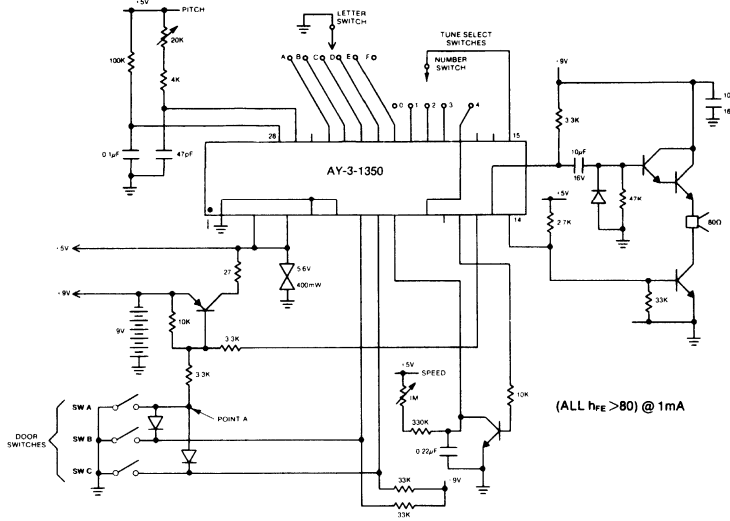
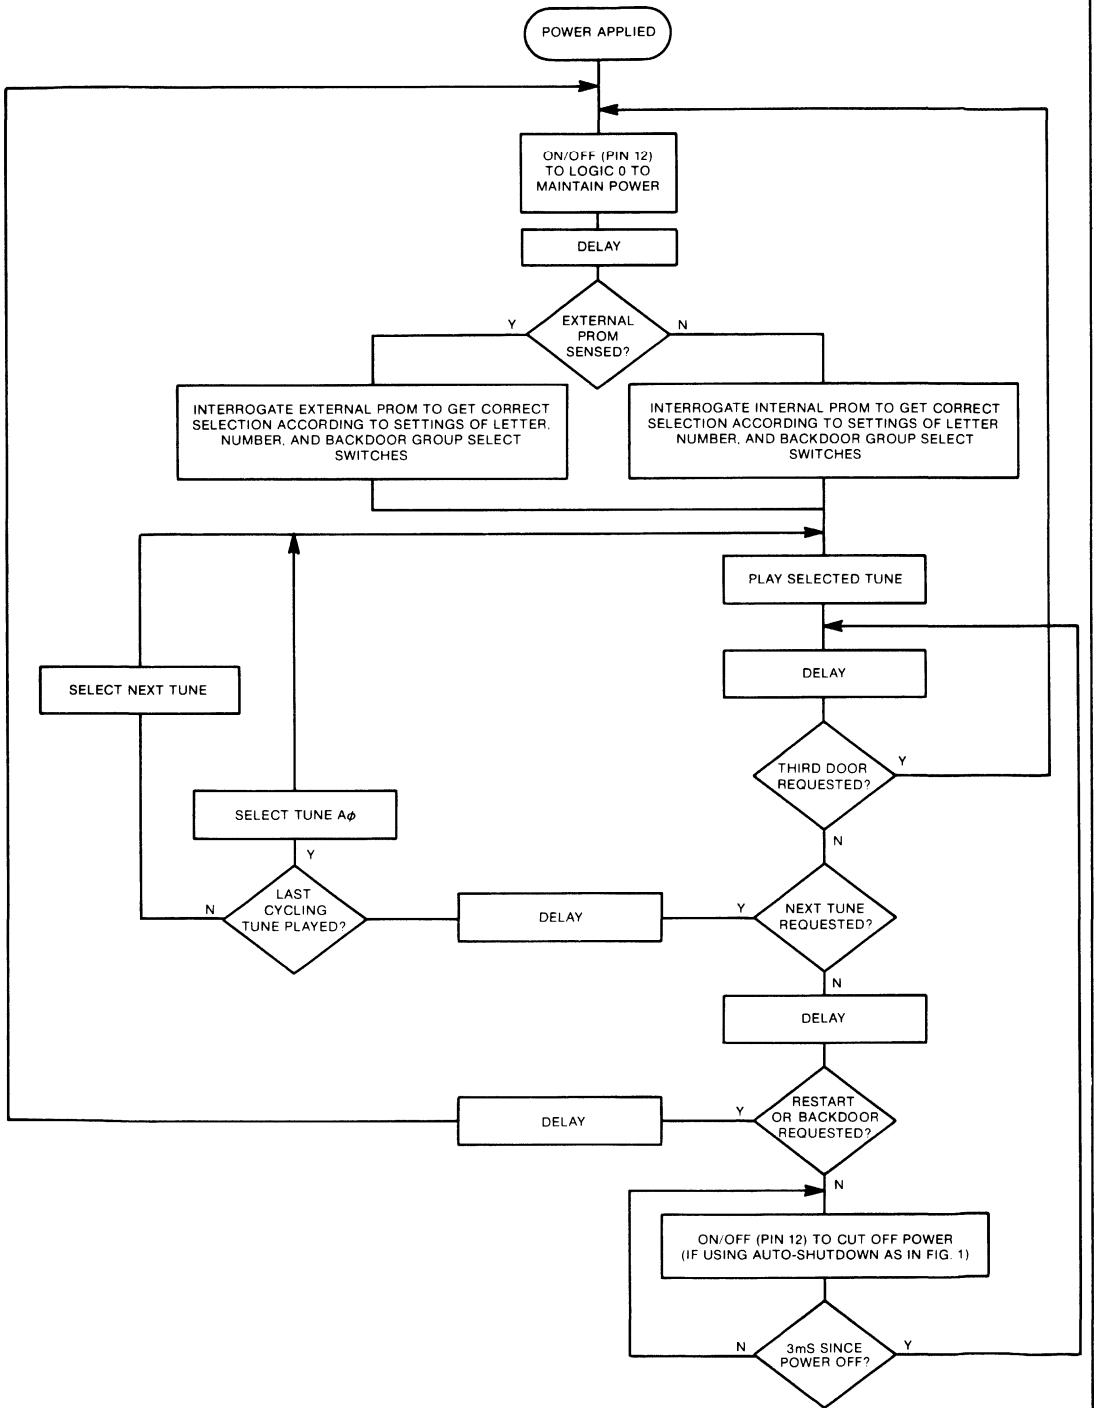

Fig. 1 SYSTEM DIAGRAM
Fig. 3 SIMPLIFIED FLOW DIAGRAM
There are many ways to connect the standard device depending on the exact application. Figure 1 shows just one implementation of the device in a doorchime. This circuit gives access to all 25 tunes from switch A and one of 5 tunes from switch C as well as the descending active chime from switch B. The tune selected for switch B follows the tunes list according to the setting of the two tune select switches (A—E and 0—4). The tune selected from switch C in Figure 1 is one of the five tunes A0 through E0 depending on the setting of the letter switch. For example, with the letter switch set at E and the number switch set at 4, the tunes available will be:
There is virtually no power consumption in the standby condition (external transistor leakages only). When any door switch is activated the circuit powers up, plays a tune, and then automatically powers down again to conserve the battery, even if the operator keeps his finger on the switch to the end of the tune. He must release it and re-press to play again with the circuit in Figure 1. Activating any of the door switches will pull point A to ground
Figure 1 shows only a typical one-chip implementation. Further options come from use of different switching and/or from use of the next tune facilities built into the chip. These will now be considered in turn.
In Figure 1 the Switch C Group Select pin (16) is not connected, and one of the five tunes (A0 through E0) will play if switch C is activated. Other number groups can be chosen by connecting the Switch C Group Select pin as follows:
Using the power-up circuit of Figure 1, the AY-3-1350 will have +5V applied and be latched within a few microseconds (dependant upon external components) from any bell-push closing. The device starts to operate when the RESET pin reaches logic 1 (about 10ms with components shown) but in fact the tune select switches are not interrogated until approximately 6ms later. The total is sufficient for most bell-pushes to complete any bounce period and for a firm selection of tunes to be made.
At the end of tune play the circuit of Figure 1 powers down because ON/OFF (pin 12) is raised to a logic 1. This simplified flow diagram in Figure 3 shows that before the power down there is a test for connection between NEXT TUNE (pin 10) then RESTART (pin 17) with TUNeselect 4 (pin 9). At this time NEXT TUNE (pin 10) then RESTART (pin 17), which are normally at logic 1, output a logic 0. This is looked for at input TUNeselect 4 (pin 9). If neither is found the power down system is reached as in Figure 1.
A RESTART (pin 17)—TUNeselect 4 (pin 9) connection at the moment of test at the end of a tune causes the same selected tune to be played again. Figure 3 shows that in this case the tune sensing mechanism is passed through once more so the tune would be different the second time if the switches were altered while the first tune was playing.